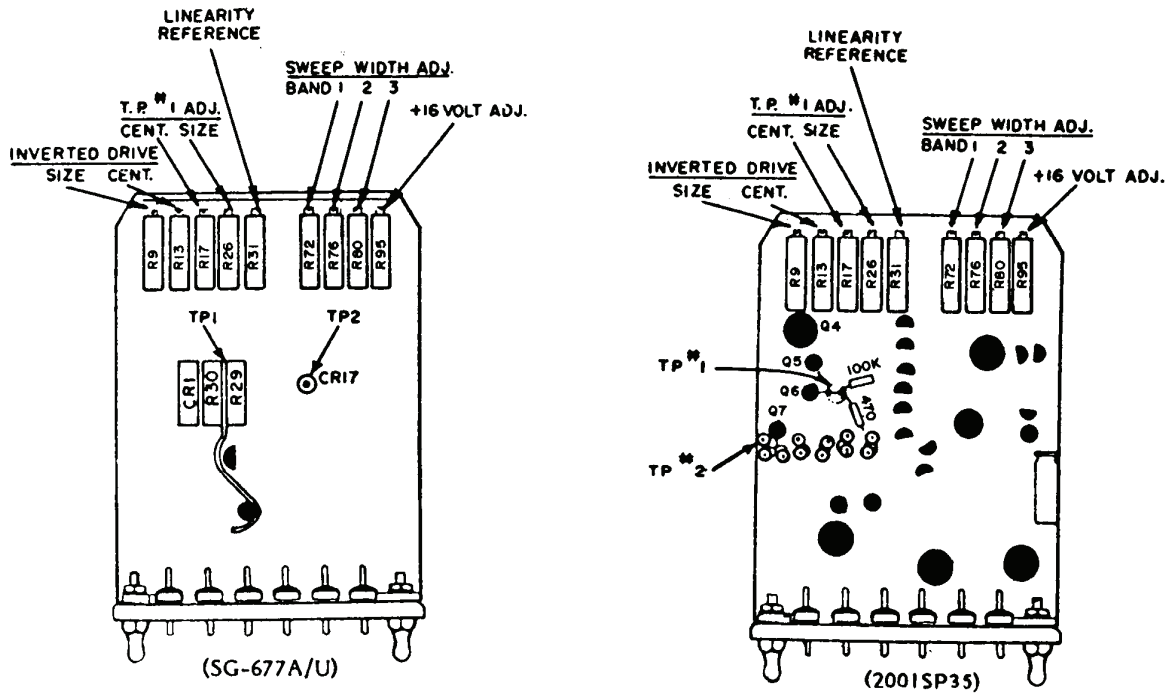

Figure 5. M2H module.
Remove TI top cover, left side panel, and M2H module cover before starting performance checks. (See figure 5 for location of monitoring points and adjustments.)
- (2) Adjust R95 (fig. 5) until multimeter indicates the same voltage, but of opposite polarity as recorded in (8) above (R).
(4) Adjust M2H R9 and M2H R13 (fig. 5) until the positive and negative peaks agree precisely with recordings in (2) and (3) above (R).
(5) Repeat **a** (1) through (6) above to check for oscilloscope drift while adjustments were being made.
(1) Position controls as listed in (a) through (d) below:
(2) Connect oscilloscope to M2H TP1 (fig. 5) and chassis ground.
(3) If indication on oscilloscope is not 0 V, perform **b** (1) below.
(4) Increase **SWEEP WIDTH** to max.
(5) If indication on oscilloscope is not 28 V p-p, perform **b** (2) below.
- (6) Connect **HORIZ** output to oscilloscope **CH 2** (set oscilloscope for an X versus Y function operation).
- (7) Set **SWEEP TIME SEC** to **.1-.01**.
- (9) Connect oscilloscope to M2H TP2 (fig. 5) and chassis ground.
- (1) Adjust R17 (fig. 5) for 0 V indication on oscilloscope (R).
- (2) Adjust R26 (fig. 5) for 28 V pp indication on oscilloscope (R).
- (3) Adjust R31 (fig. 5) until oscilloscope sweep "knees" approximately 2/3 cm to the left of the 10 cm mark (R).
- (4) Repeat paragraphs **9** through **13** above.